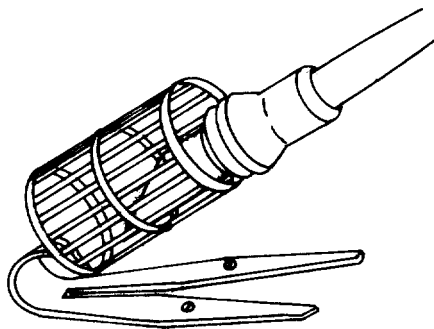

Figure 12. Soldering Iron Holder
54. **OVERHEAT PROTECTION.** Do not allow the iron to overheat. Disconnect the iron when it is not in use (between operations), or use a heat dissipating stand which will keep the iron at a constant temperature. When the soldering iron is not in actual use during operations, keep it in a holder. This will protect the operator against burns and the iron against damage (Figure 12).